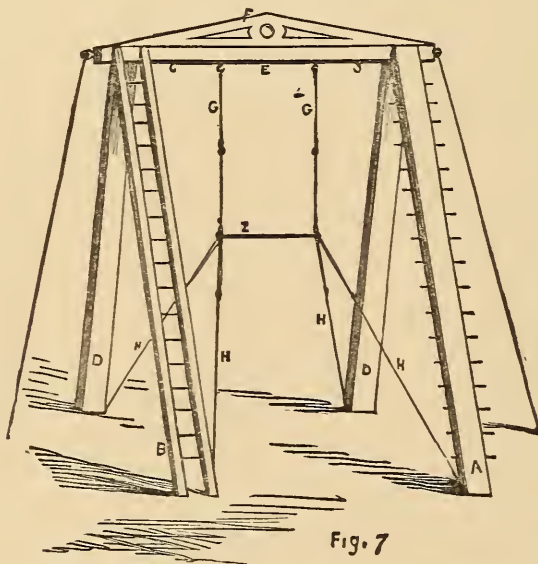

Fig. 7
This combination (Fig. 7) consists of a ladder-plank (A), two standing-planks (D D), and standing-ladder (B), all fourteen feet in length, which form the four supports to carry the cross-beam (E), ten feet long, to which may be suspended
Exercise 5 (Fig. 7).—This is the first of the wrist 'twists,' and is a movement that will tax the power of the fore-arm rather severely. Start from the position shown in Fig. 2, and describe a circle with each club *from the wrist* in the direction